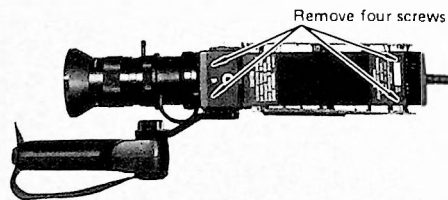

Fig. 7-6
- Remove the four screws on the bottom cover and remove the cover. (Fig. 7-6)